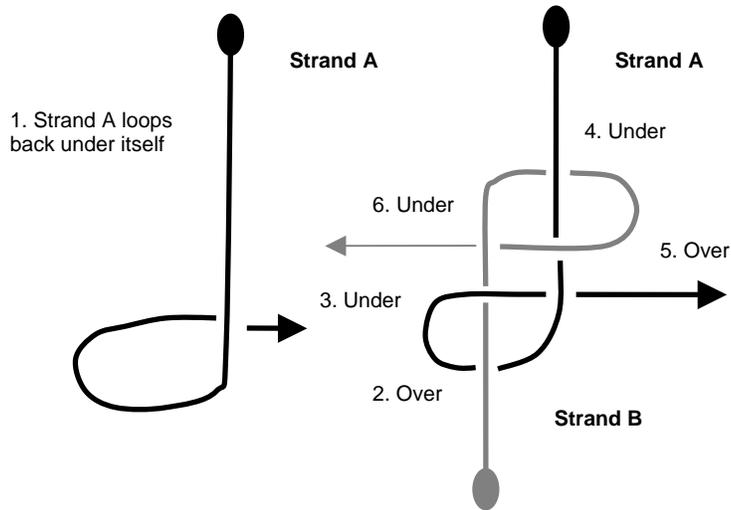

Figure 1. Figure eight knot to join high tensile wire.
- 1) Take the first strand (strand A) and make a loop in it as shown in Figure 1.
- 2) Take the second strand (strand B) and thread it through the loop of strand A (steps 2 and 3 in Figure 1).